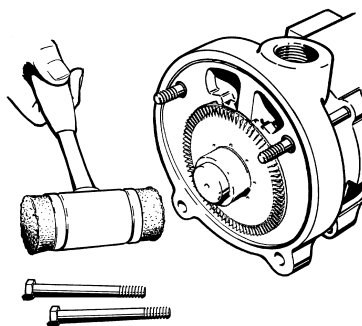

Figure 4-1
2. Remove the two (2) Nuts (#20) and the two (2) 3/8" X 4" Bolts (#19) from the Cover (#2). On stainless steel models, remove the four (4) Nuts (#20).
4. Remove the Impeller (#11). Refer to Figure 4-1. The impeller is a slip fit and, under normal conditions, can be removed by gently tapping on the end of the shaft sleeve with a mallet. Leave the Impeller Key (#23) in place.